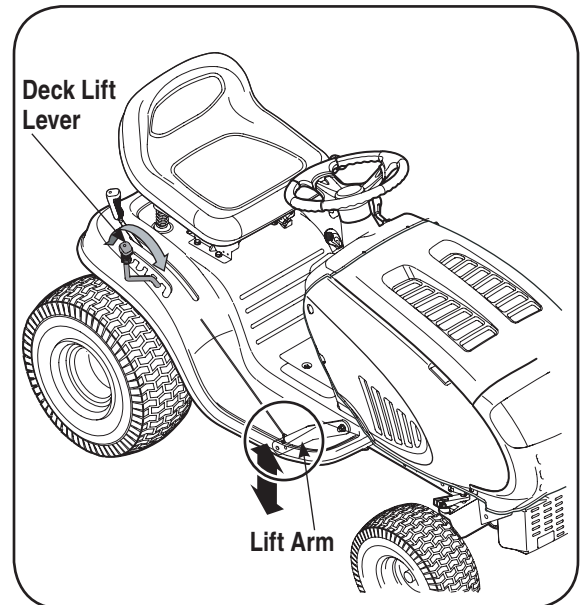

Figure 13
3. Move the tractor's deck lift lever into the lowest notch on the fender allowing the lift arms to drop. See Figure 13.